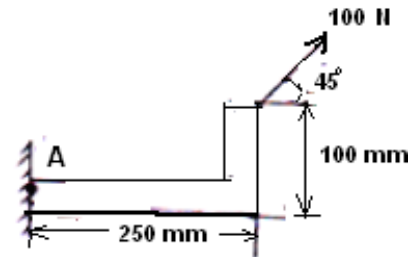

Fig. 6
Q.7	(a) Define: (i) Moment (ii) Couple (b) Law of triangle of forces (c) Find the resultant of force shown in fig. 6 about point 'A'.